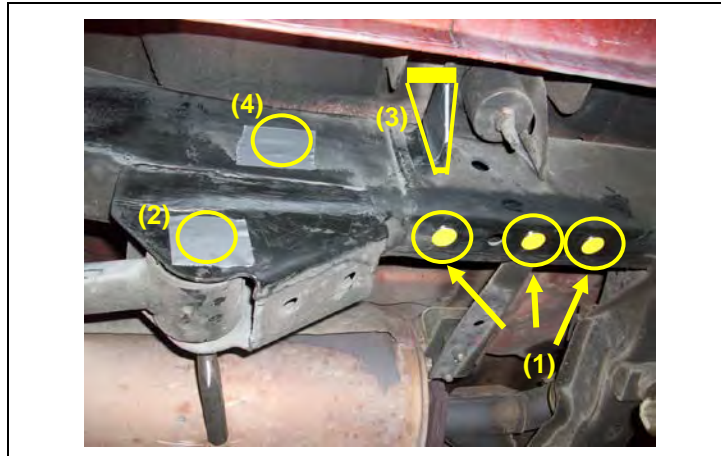

Figure 24 – Masking Locations for Type “C” Reinforcement Bracket
11. Using the 3/4" round labels provided in the service kit, mask off the Pop-nuts. Use tape to mask off other related bracket mounting locations highlighted in Figure 24. This is required to inhibit Noxudol chemicals from coating the bracket mounting surfaces.